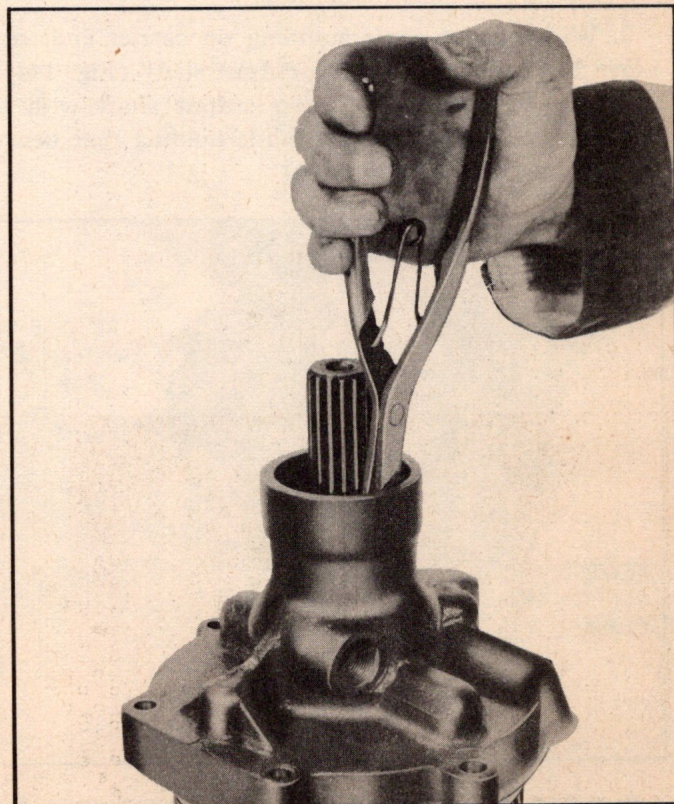

Fig. 143—Removing Snap Ring on Output Shaft
2. Remove snap ring on output shaft inside of rear bearing retainer at ball bearing. This snap ring is smaller than other snap rings used in the transmission (Fig. 143).